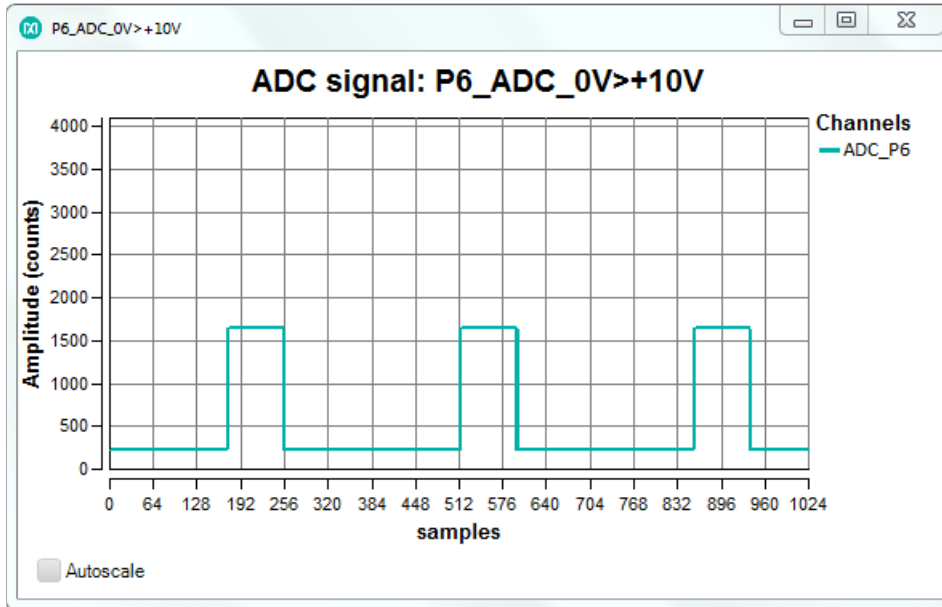
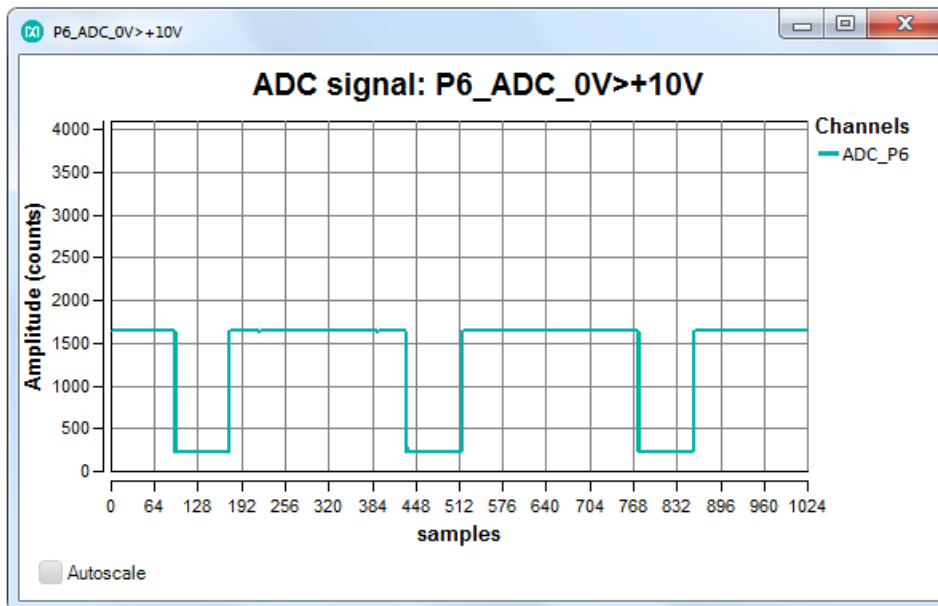

Figure 34. PWM Width as the potentiometer set to a low position.
Figure 35. PWM Width as the potentiometer set to a high position.
- In the drop-down menu on the top right, select P6_ADC_0V>+10V and click the Get plot box button. Another plot window opens for ADC on P6. Observe PWM signal in the ADC plot window. Adjust the pulse width by turning the potentiometer to the low and high positions and observe the width of the PWM waveform as shown in **Figure 34** and **Figure 35**.